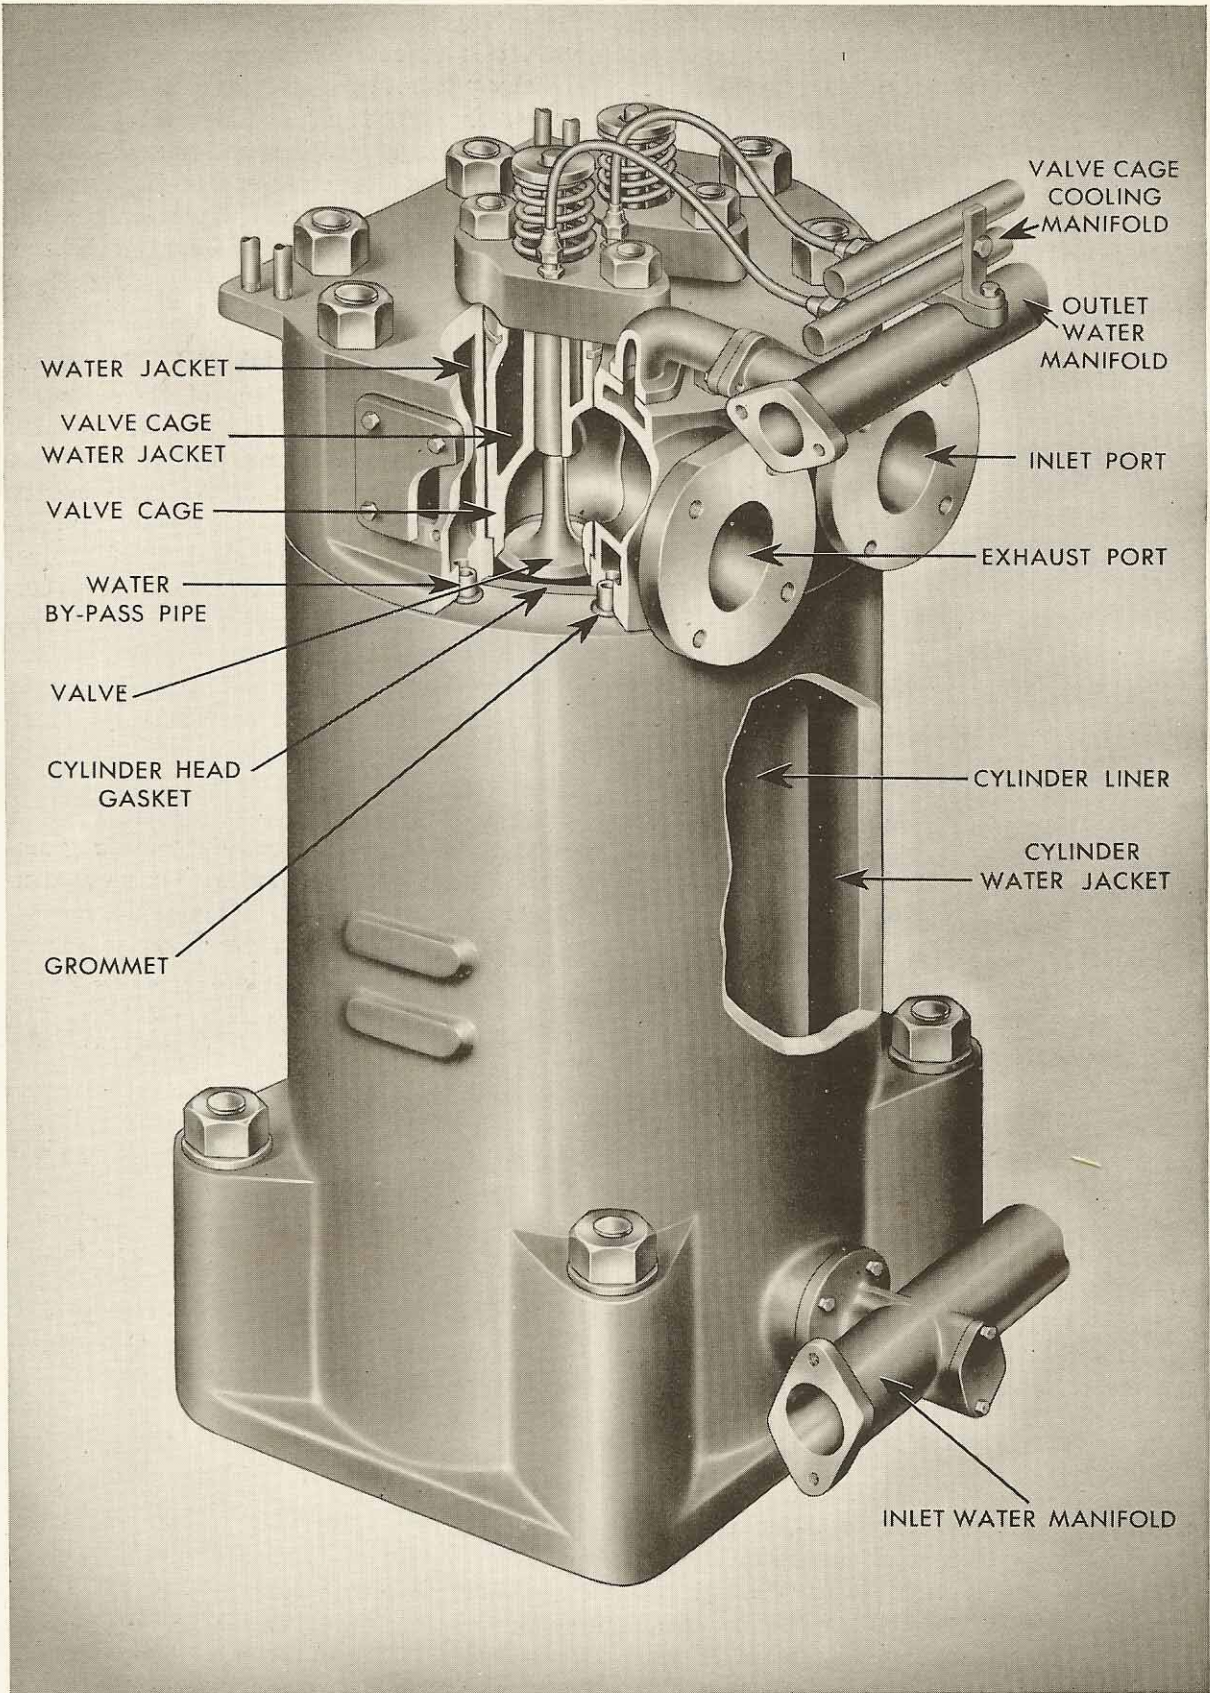

FIGURE 3-5
12. CYLINDER INLET PIPING: Where the inlet-water manifold passes each cylinder, a flanged opening leads from the manifold to the bottom of the cylinder-water jacket. The water flows up the jacket space as indicated in Figure 3-5. These cylinder-water jackets have inspection plates which can be used for the removal of scale or silt deposits.
13. CYLINDER LINER: From Figure 3-5 you can also see that the water-jacket space is formed by the liner itself on the inside and the cylinder on the outside. At the top, the liner has a flange or shoulder that rests on the shelf of a recess in the cylinder. A thin ring, or gasket, separates the bottom of the